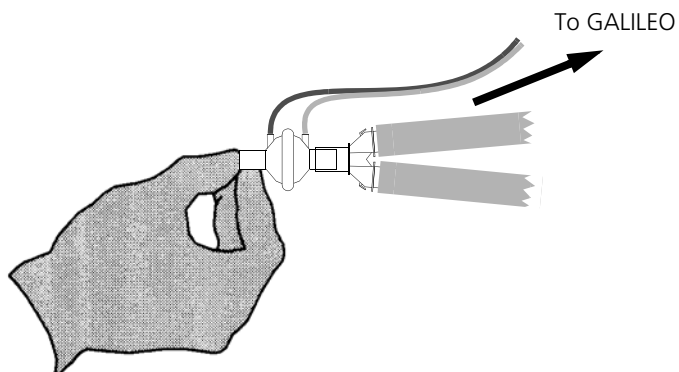

Figure 10-39. Sealing the Flow Sensor
1. Seal the open end of the Flow Sensor with a finger or thumb, so that the patient breathing circuit is completely enclosed. (Figure 10-39.)